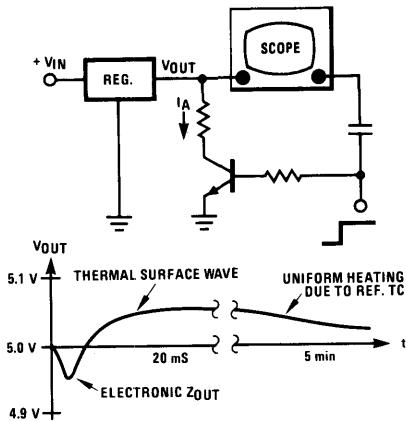

FIGURE A3.6. Thermal and Electronic Effects on Output Impedance for a Representative Regulator
Few people realize that many of the important specification limits of high power regulators are determined by thermal characteristics rather than electrical ones. To illustrate, suppose a high current step load is placed on a regulator and the output voltage is observed on a storage oscilloscope as shown in Figure A3.6. The response is due to both electronic and thermal effects.
- a) Initially a large negative spike (not shown in Figure A3.6) can occur due to the presence of regulator and circuit lead inductance.
- c) As the electronic response decays, a third exponential response is observed with a time constant in the 20 mS to 40 mS region (see Figure A3.6). This is the major thermal response which results
- d) The last portion of the response in Figure A3.6 shows a long term (minutes) settling effect, which is due largely to uniform heating effects in the die, header and sink. Such heating gives rise to normal temperature drift effects in the voltage reference which then reflect as small output voltage changes.